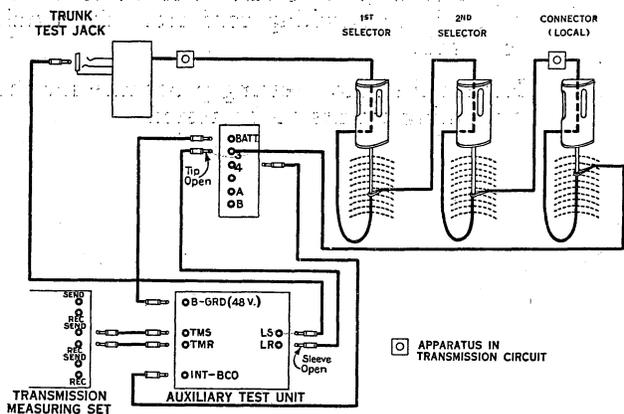

Figure 1
2.03 Figure 1 shows schematically the connections for the test.